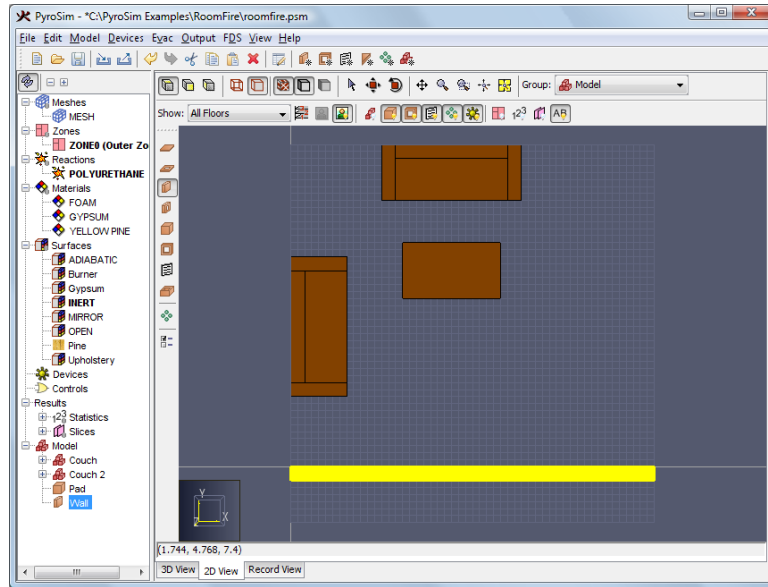

Figure 6.9. Drawing the wall
4. With the wall tool draw the wall from left to right along the Y=0 line. Hold down the Shift key to position the wall in the lower part of the model, Figure 6.9.